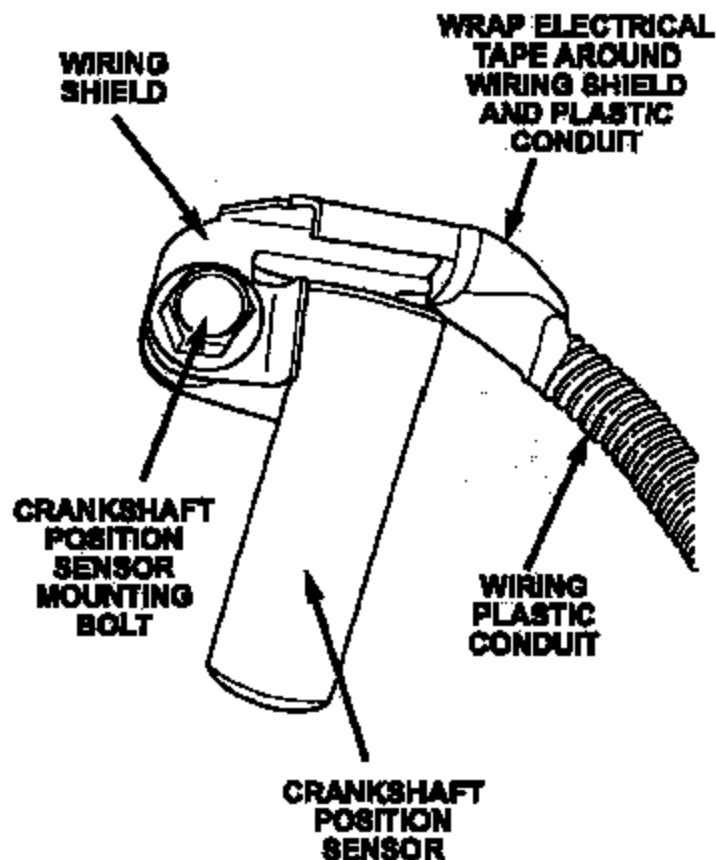

Figure 4
13. Using electrical tape, tape the wiring shield to the sensor wiring conduit to hold the shield in position during sensor installation (Figure 4).